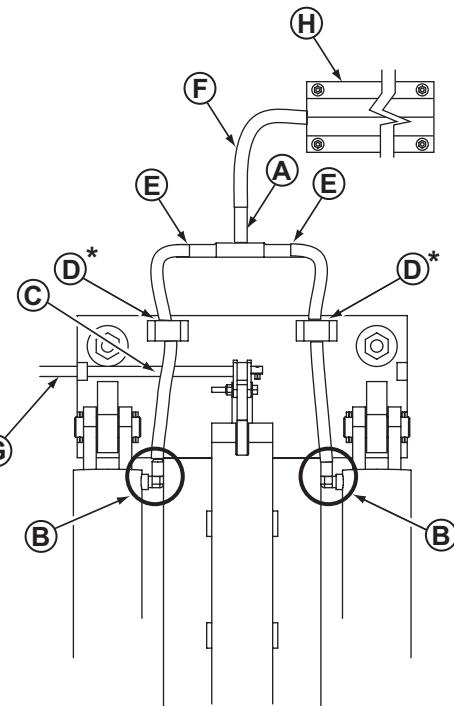

Fig. 6
C. Connect the long hydraulic hose to the branch on the JIC tee fitting, Fig 6 (F).
D. Connect a male pipe thread to male JIC elbow to the port near the base end of each cylinder. The fittings should face toward the front of the lift (towards conduit or hose guard) and up 5 to 10 degrees, the cylinders will rotate upward as the lift rises, Fig. 6 (B). For rear approach hose installation face rearward down 5 to 10 degrees.
E. Connect the short hydraulic hoses to the elbows on the cylinders, Fig. 6 (B). These connections should be hand-tight only. Feed the free ends of the hoses thru the hose guides, Fig. 6 (C & D) . (Ignore for rear approach hose installation.)
***For recessed installations, hose guides (D*) are not used. Cylinders are rotated 180° from positions shown in Fig. 6.**
F. Connect short hoses to the runs on the JIC tee fitting, Fig. 6 (E). For rear approach hose installation to stainless tubing also position tubing clamp adapters over concrete anchors and place clamp over tubing as shown. Connect 90 degree JIC elbow to swivel tee and then long hose to male adapter.